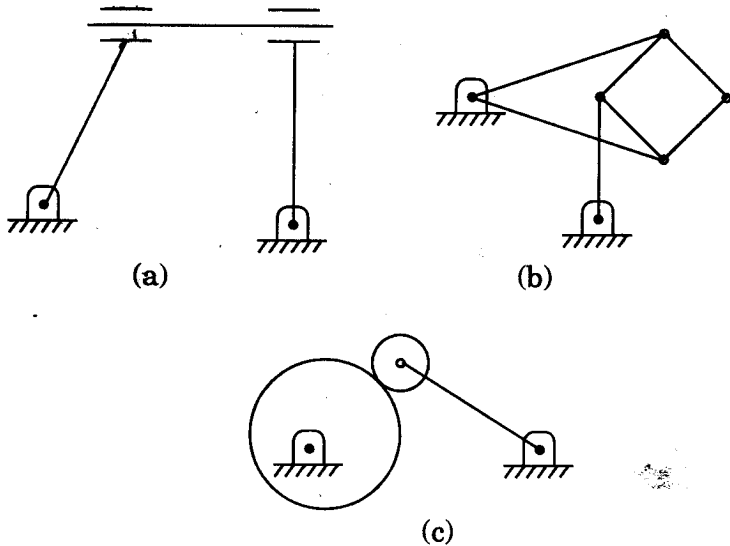

Figure 1
2. (a) Find the degrees of freedom of mechanisms shown in Figure 1.